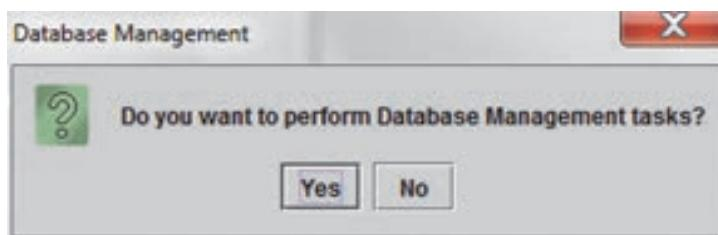
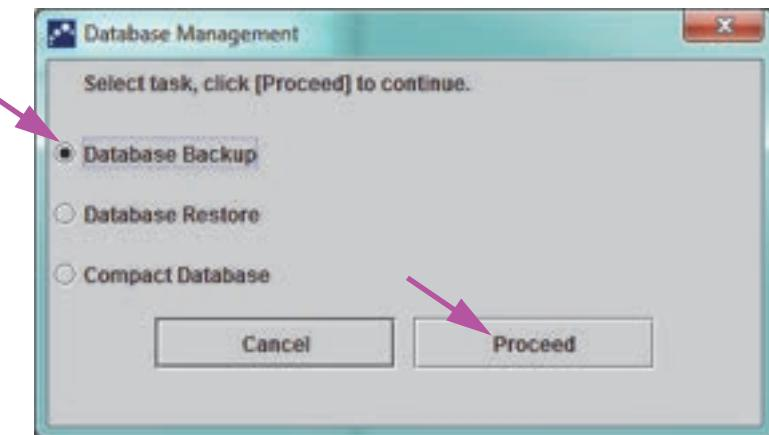

Figure 5-8. Database Management Dialog Box
Figure 5-9. Database Management Dialog Box
1. If the **Database Management Reminders** box on the System Configuration dialog box (see Figure 2-77) is **not** checked, the Database Management Dialog Box (see Figure 5-8) will not appear and no action concerning the database will be required. The software will continue to load and you can skip to Section 5.2.3.2 to continue the startup sequence.
2. If the **Database Management Reminders** box on the System Configuration dialog screen (see Figure 2-77) is checked, the Database Management dialog box (see Figure 5-8) will then appear on top of the GeneXpert Dx System window asking if you want to perform Database Management tasks.
- A. If you click **No** on the Database Management dialog box (see Figure 5-8). The GeneXpert Dx software continues to load and you can proceed to Section 5.2.3.2.
- B. Click **Yes** in the Database Management dialog box (see Figure 5-8) and you will be asked to select the task to be performed (see Figure 5-9).
Depending on the user's privileges, all (or any) of the four options in the Database Management dialog box may not be visible. See Figure 5-9.
4. Click the **Proceed** button (see Figure 5-9) to start performing the desired database management task.